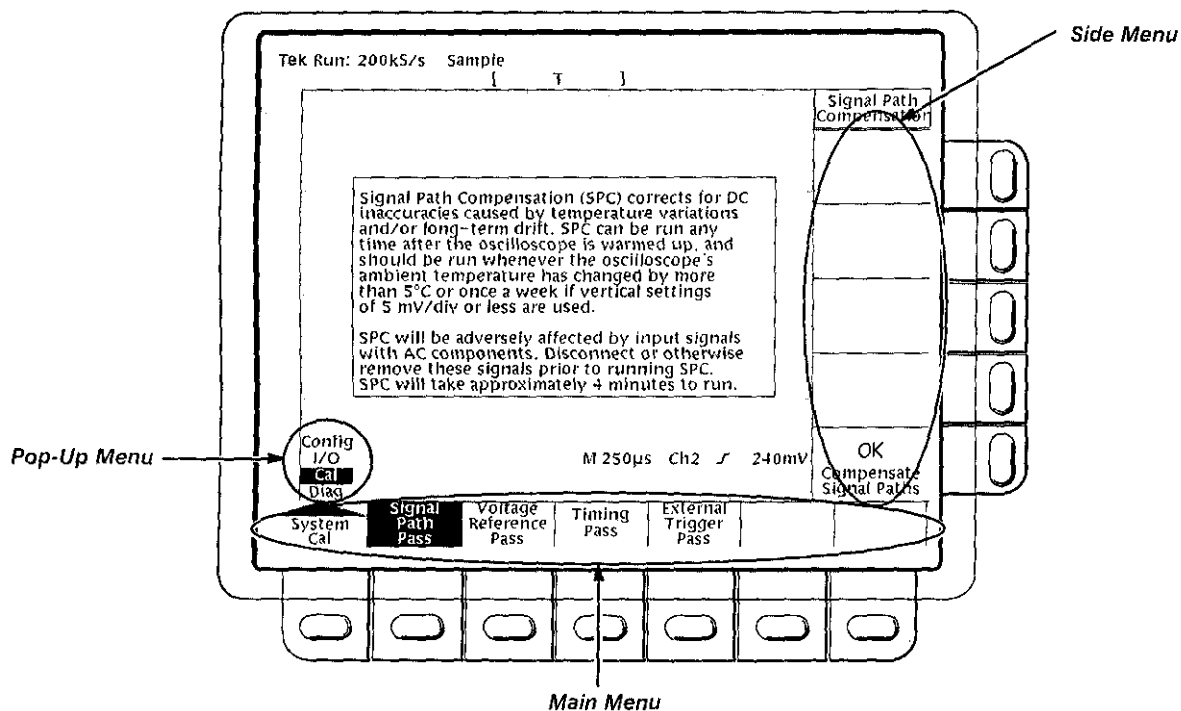

Figure 6-1: Menu Locations
- Refer to Figure 6-1: "Main menu" refers to the menu that labels the seven menu buttons under the display. "Side menu" refers to the menu that labels the five buttons to the right of the display. "Pop-up menu" refers to a menu that pops up when a main menu button is pressed.
6. Check that a square-wave probe-compensation signal of about five divisions in amplitude is on screen. (See Figure 6-1 on page 6-2 to locate the readout.)